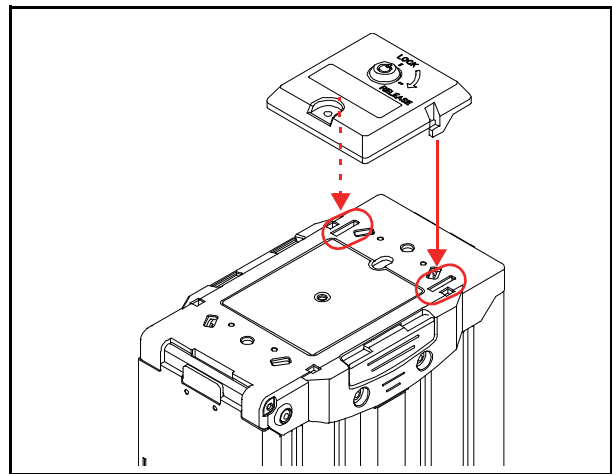

Figure 14 Frame Lock Installation 3
4. Place the Frame Lock assembly on the rear side of the Cash Box. Be sure that the both sides of the Frame Lock Tabs are inserted to the Tab holes of the Cash Box (Figure 14).